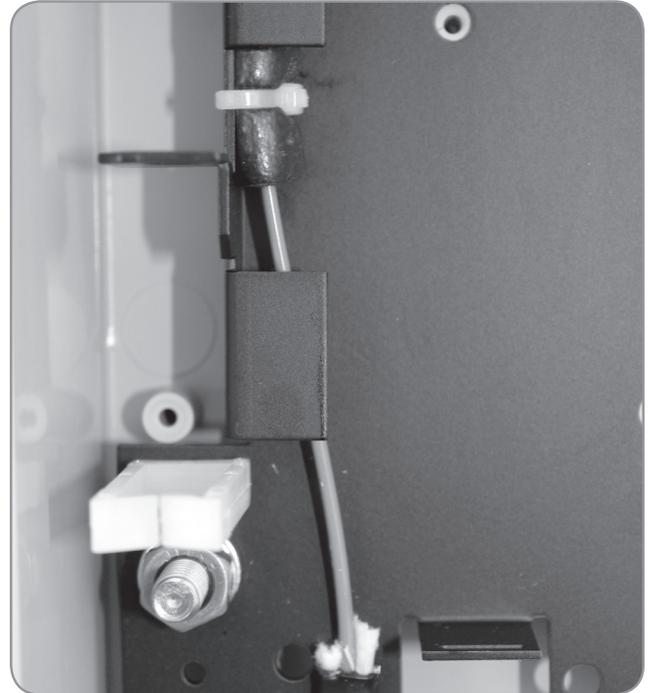

Figure 3
7. Secure the buffer tube to the splice tray using a tie wrap. (Figure 3)